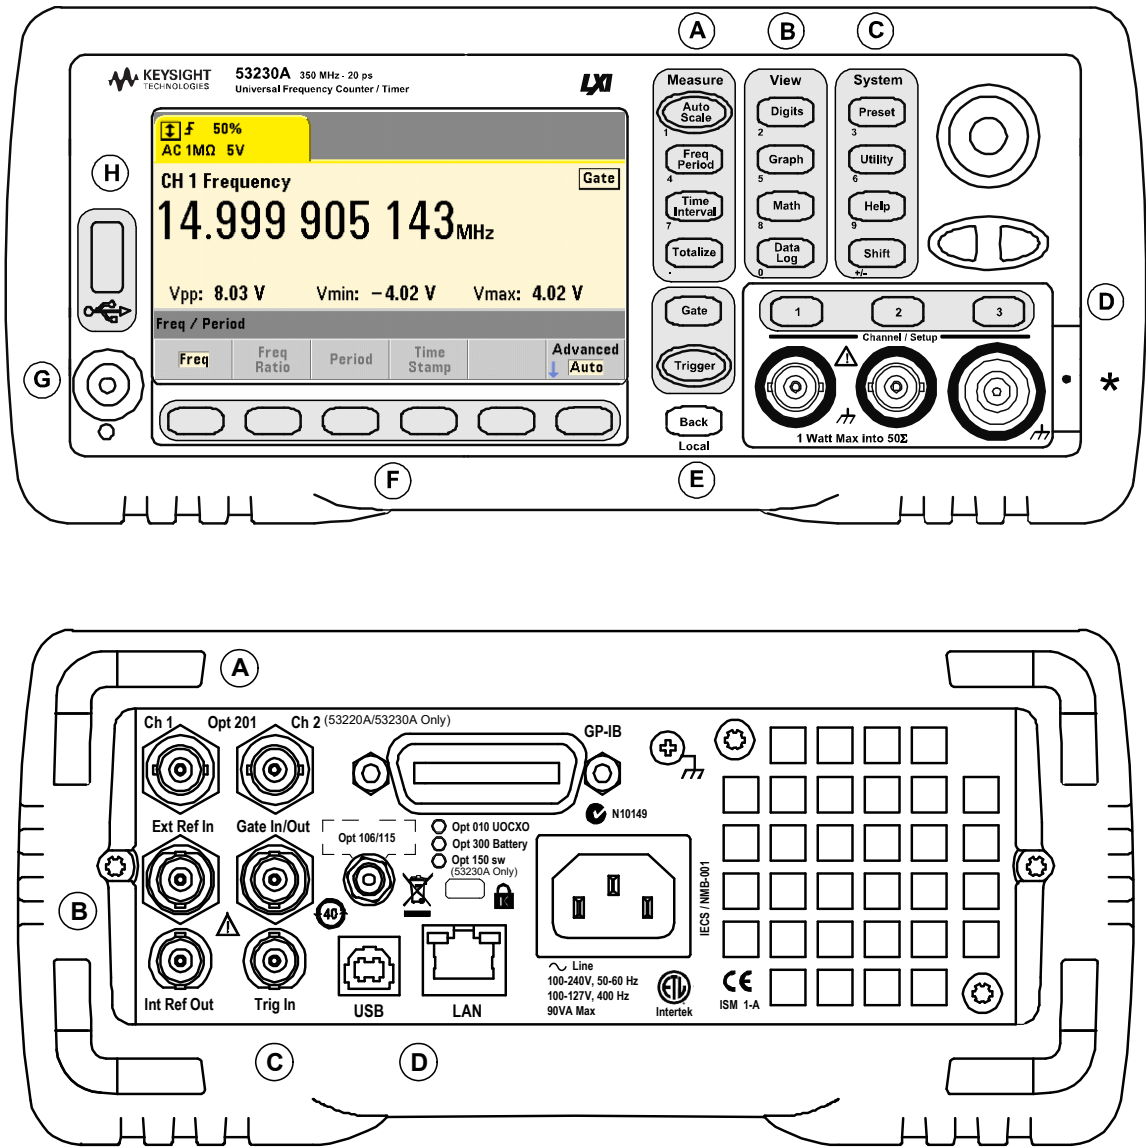

Figure 1-1 The 53220A/53230A Universal Frequency Counter/Timer.
Figure 1-1 shows the front and rear panels of the Keysight 53230A 350 MHz Universal Frequency Counter/Timer. The 53220A and the 53230A are dimensionally identical and available with the same product options - with the exception of Pulse Measurement Firmware Option 150 available with the 53230A only.
D. Channel keys - select the input channel and displays the soft key menu used to configure the input signal path. Note that Figure 1-1 includes Channel 3 Option 106/115. Signal path configuration is covered in Chapter 4.
The 53230A rear panel shown in Figure 1-1 includes product Option 201 (parallel rear panel inputs) and GPIB interface Option 400. The rear panel terminals are briefly described below.